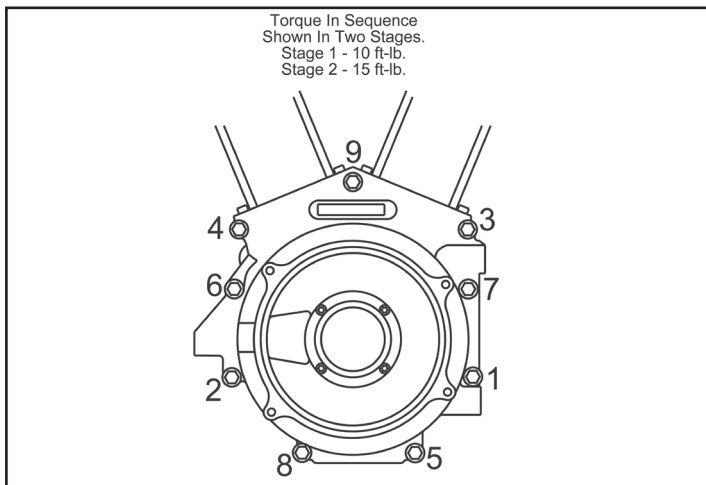

Figure 1
- When assembling crankcases that have been bored to accept big bore cylinders, use S&S torque specifications for crankcase bolts. See Figure 1.
- A. Bolt crankcases together as an assembly. Use special S&S center case bolt with special washers installed in the order shown in **Picture 5**. Torque case bolts in two stages to 10 ft-lb. and finally 15 ft-lb. in the sequence shown in **Figure 1**.